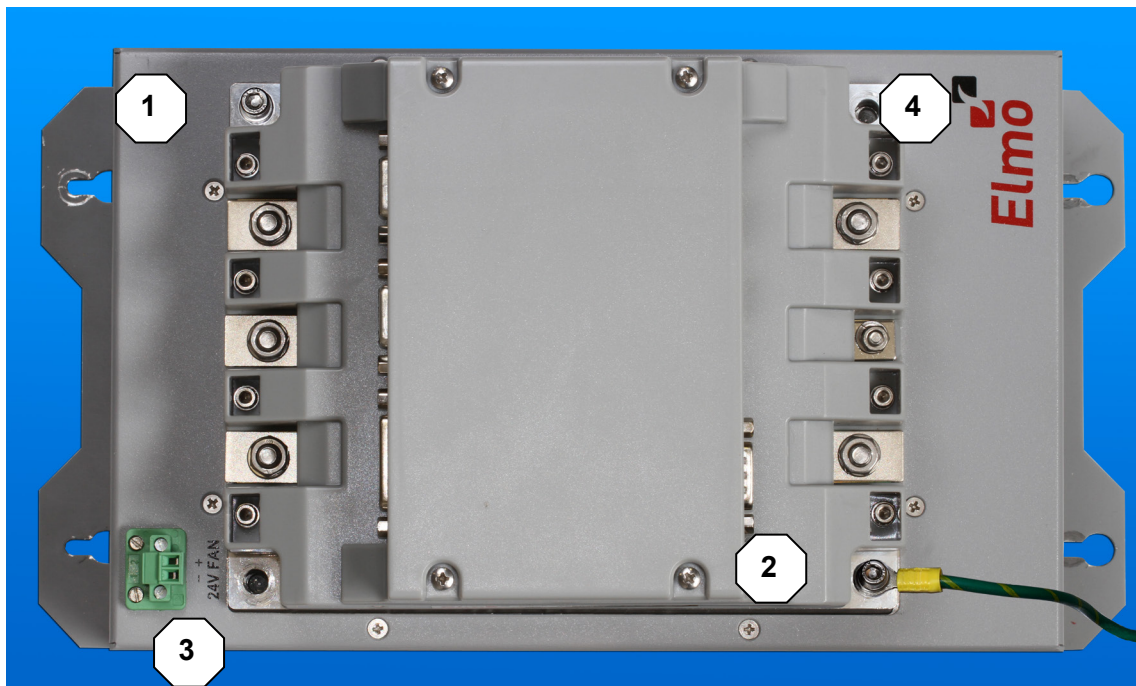

Figure 7: Pattern to install four securing screws
- b. Install the second screw and grounding cable lug at the opposite diagonal corner as shown in Figure 7, but only tighten to hand-tight (0.5 Nm).
- c. Repeat steps a. and b. for the third and fourth screws as shown Figure 7.